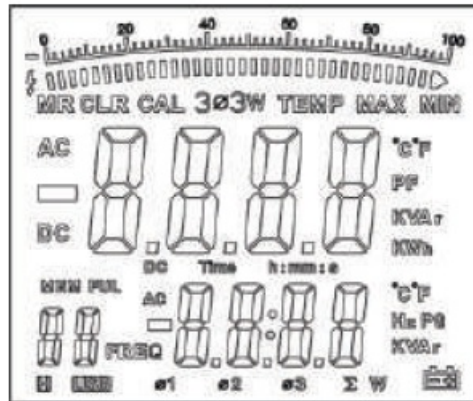

Figure 3
- 4 DISPLAY SYMBOLS \(See figure 3\)
DISPLAY SYMBOLS (See figure 3)